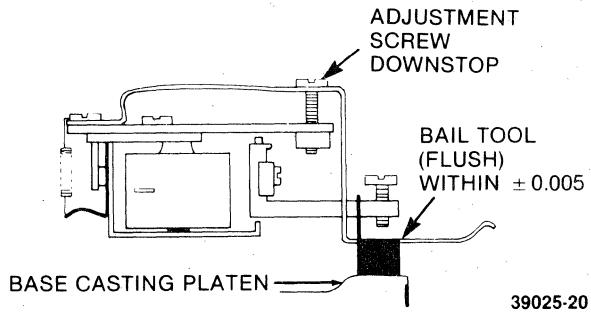

FIGURE 5-4. HEAD LOAD ACTUATOR DOWNSTOP ADJUSTMENT
- g. Adjust up stop on actuator so that bail just touches Head Load Arm or has 0.005 inch clearance or lifts load arm 0.005 inch. See figure 5-4.
- h. If step "g" checks, adjust downstop screw (figure 5-4) clockwise until timing is met.